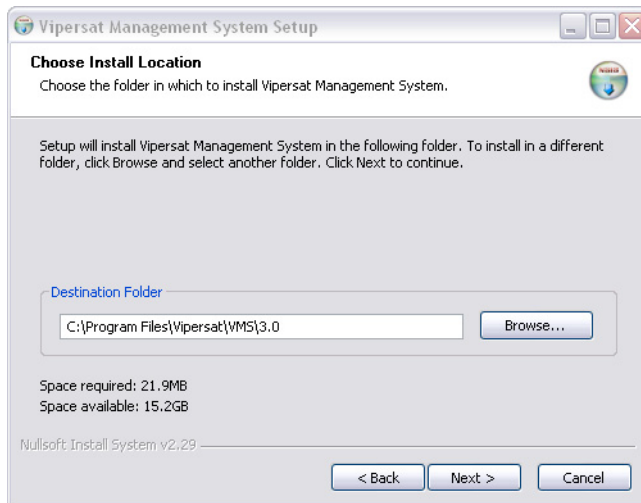

Figure 2-17 Choose Install Location dialog
13. In the **Choose Install Location** dialog shown in figure 2-17, it is recommended that the default file location be used. Click the **Next** button to continue.